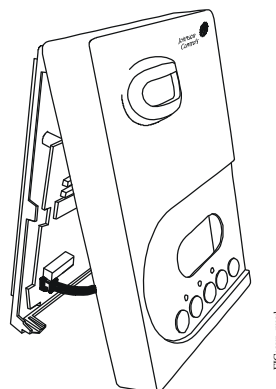

Figure 1: Removing the Cover
2. Pull the bottom edge of the thermostat cover and open the thermostat as illustrated in Figure 1.